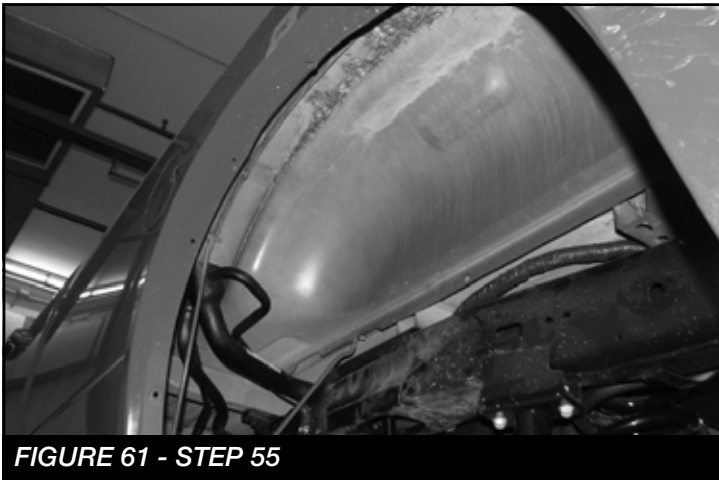

FIGURE 61 - STEP 55
55. Jack up the rear end of the vehicle and support the frame rails with jack stands and remove wheels and tires. Remove the rear driver and passenger inner fender liners. **SEE FIGURE 61**